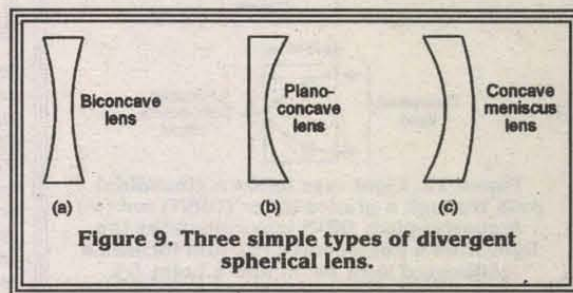

Figure 9. Three simple types of divergent spherical lenses.
Figure 9 shows three simple
ferent way to a normal lens. A GRIN rod is a glass or fiber rod that has a refractive index that decreases progressively with distance from the rod axis. This index variation causes light rays to follow a sinusoidal path as they travel along the rod, as shown in Figure 9(a). The length of one complete sinusoidal cycle in the rod is called the *pitch* (P) of the rod; the P value is determined mainly by the rod's diameter and refractive index profile; the value is typically about 20mm.